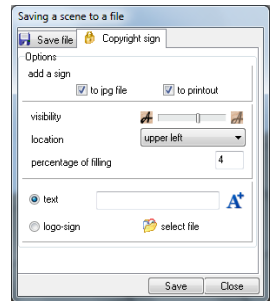

Fig. 309 – adding a copyright sign
- a new dialog box will open - **Saving a scene to a file**, in which it is possible to add a signature or logo – in the **Copyright sign**, and set its location, size and percentage of filling (transparency level) (Fig. 309);